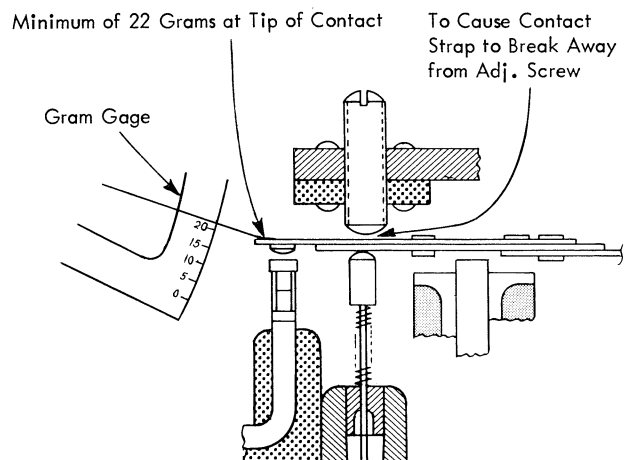

Figure 12-9. Contact Tension
9. Remove the blank card and turn the main-line switch on and off intermittently (about 18 volts applied to the sensing magnet). The contacts must fully operate at this voltage. If any failures occur, remove the contact assembly and form the failing contact downward. As a final check, with the power off, measure the contact tension with a gram gage. The contact strap should move away from the adjusting screw with a minimum of 22 grams tension (Figure 12-9).